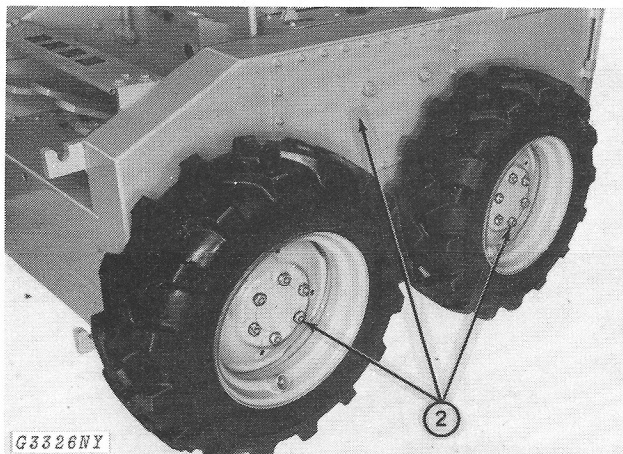

Fig. 1-Removing Wheels and Side Panel
2. Remove both wheels (Fig. 1). Remove the two nuts that support the clutch packs and 28 nuts from the side panel. Remove the side panel.